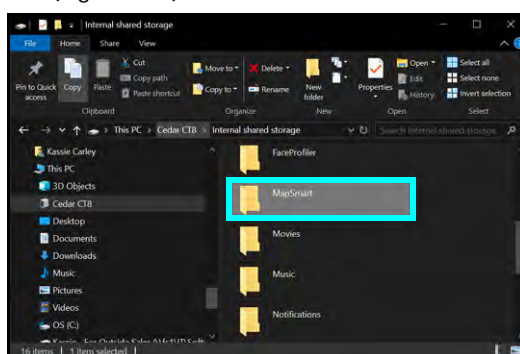

Figure 123
3. Double-click the MapSmart folder (Figure 123).